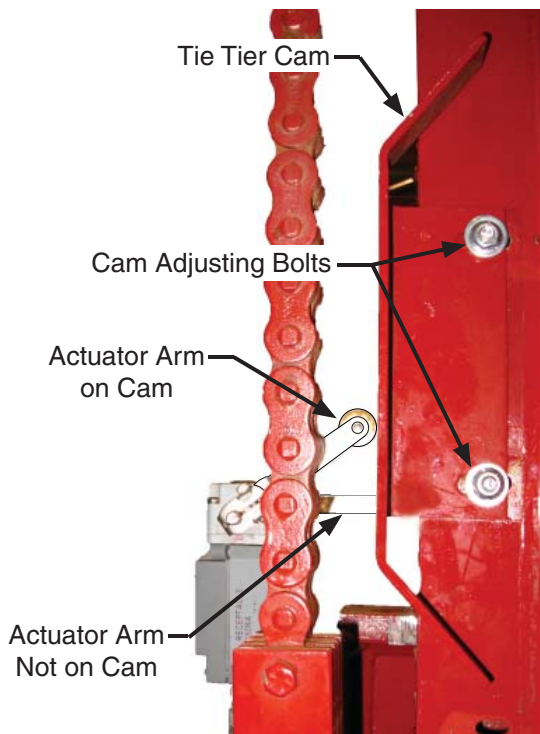

Figure 25 - Limit Switch - 5 & 6, Cam Adjustment
1. Adjust the arm so it is pointing straight back. The arm should be positioned such that it will not bind and bend when contacting the cam surface. This will happen if the roller is adjusted to contact the surface at a perpendicular angle (see Figure 25).